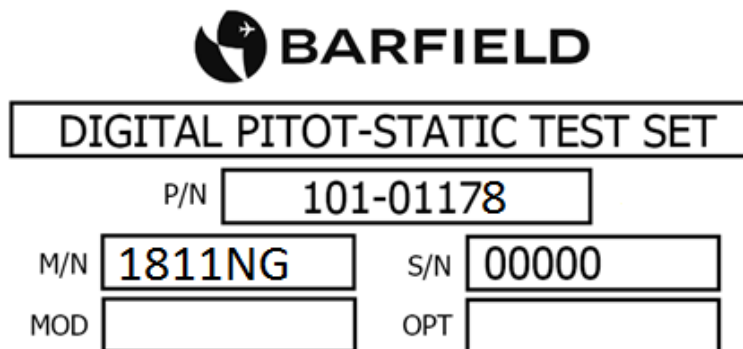

Figure 1 Identification Label
- A. The identification label, example (Figure 1), located on the front bulkhead of the Test Set, provides the following information: